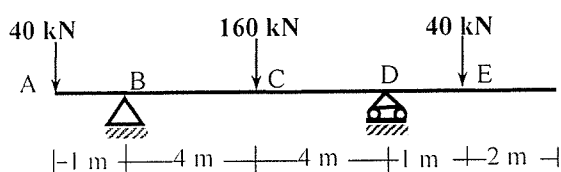

Fig.1
- Using Virtual Work Method analyze the beam shown in **Fig.1** to calculate rotation at support **B** or **C** ($EI = \text{constant}$). [08]